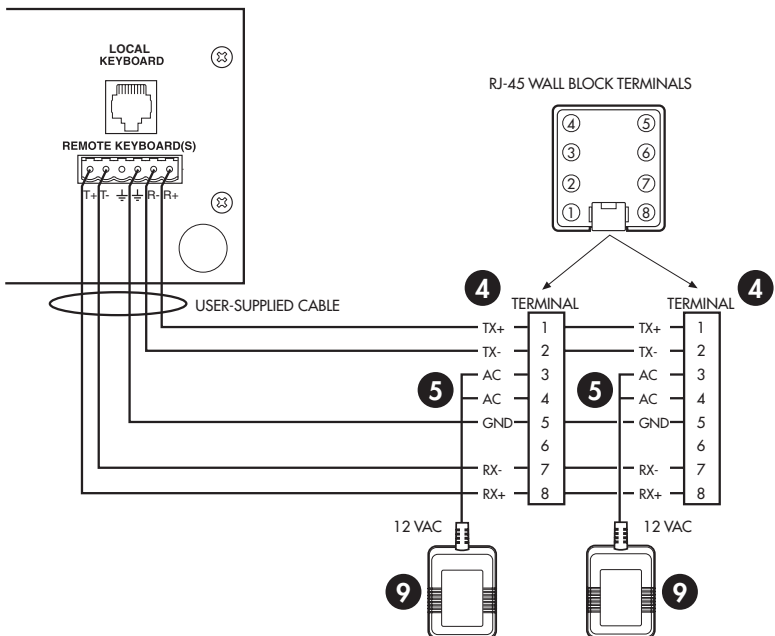

Figure 3. Wiring Diagram for Remote Keyboards
- 4 Remove the wall block cover and make cable connections at each wall block according to Figure 3.